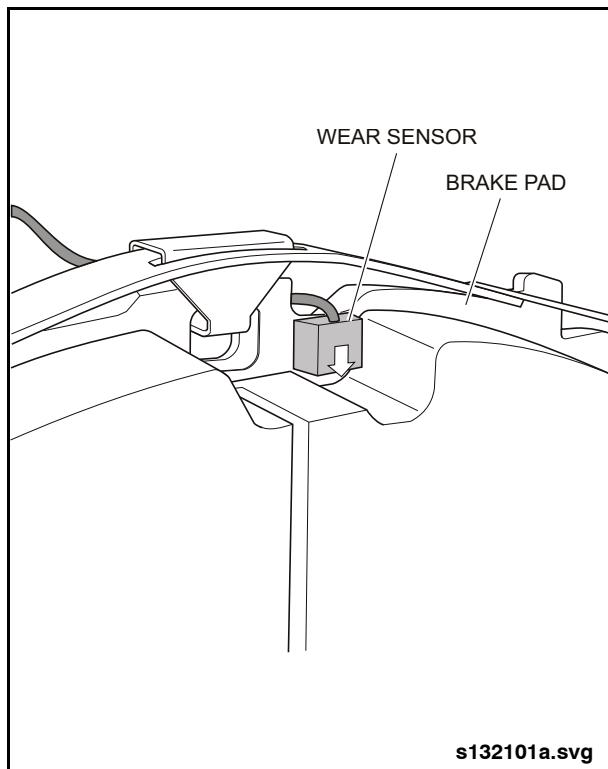

Fig. 1-75: Wear Sensor Installation
2. Align each sensor in the groove of the brake pads and press down until they lock into place. See "Fig. 1-75: Wear Sensor Installation" on page 80.